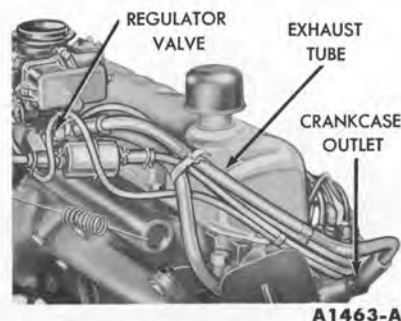

FIG. 20—Regulator Valve and Exhaust Tube-Typical
1. Remove the crankcase ventilation exhaust tube by disconnecting the exhaust tube from the crankcase ventilation outlet adapter and from the regulator valve assembly (Fig. 20).